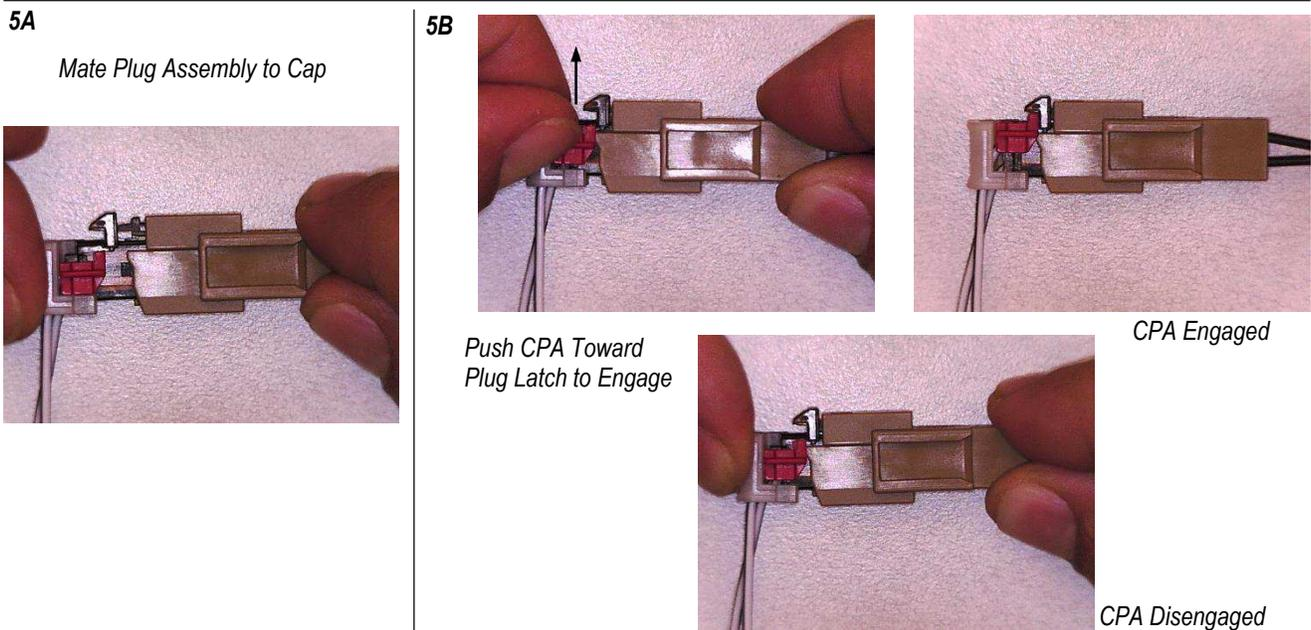

Figure 5
1. Align the mating face of the plug and cap assembly with the mating device so that the key is properly oriented with the device key and the mating latch aligns with the shark fin latch of the mating device. Then push the plug and cap assembly onto the mating device. See Figure 5, Detail A. There will be an audible “click”.
2. Push the CPA until there is an audible and tactile “click”; locking the plug and cap assembly and mating device together. See Figure 5, Detail B. The CPA should be easy to engage. The CPA will not engage if the plug and cap assembly and mating device are not fully mated.